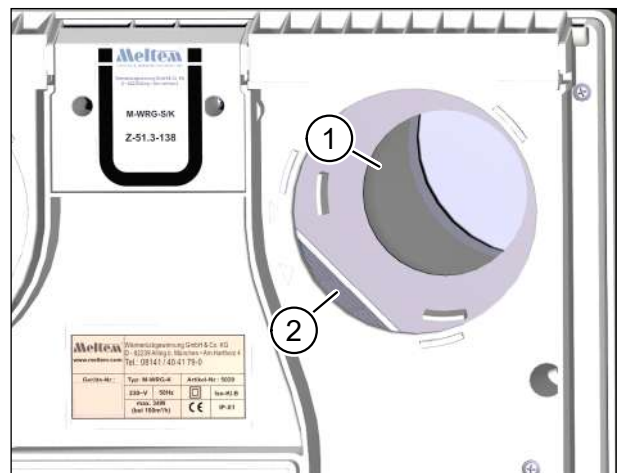

Fig. 6: Check outdoor air pipe for soiling and clean if necessary
- ▶ Check the outdoor air pipe (item 1 in Fig. 6) for soiling.
- ▶ Cover the heat exchanger (item 2 in Fig. 6) with a lint-free cloth. This will prevent dirt getting inside the heat exchanger.